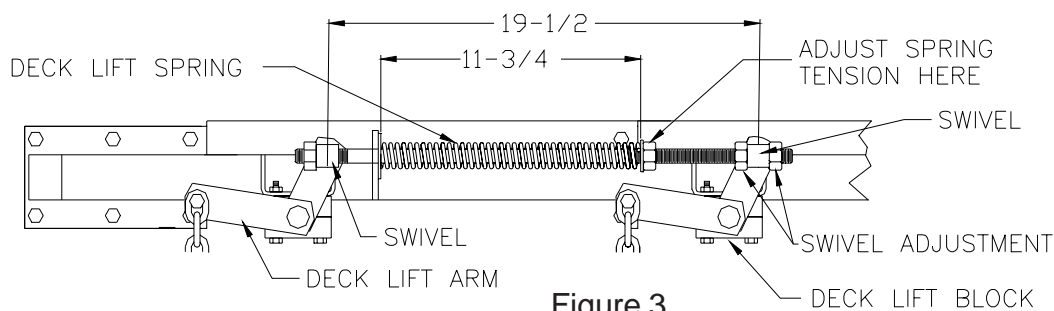

Figure 3
4. Adjust the four upper chain bolts to the center of the slot in the deck lift arms. NOTE: make sure deck lift blocks are tightly bolted to the frame (See Fig 3).
6. Check the distance between the washers on the deck lift springs. Distance should be 11-3/4" (See Fig 3).